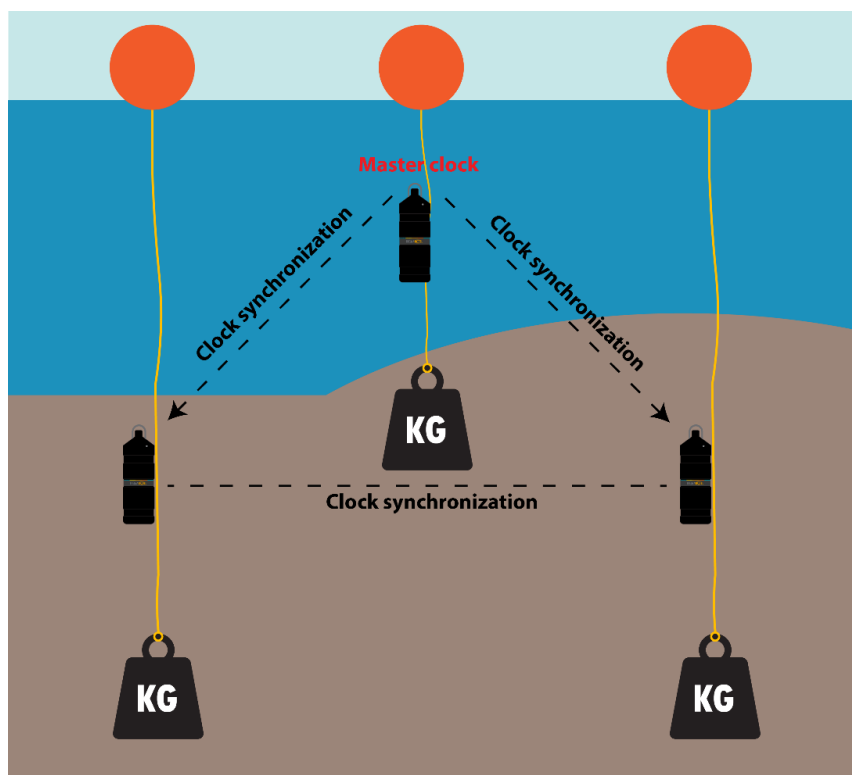

Figure 2: Visualisation of clock synchronisation between three receivers, with one receiver serving as the “master clock”
- A common clock reference is utilized across the synchronization transmitters, with one receiver serving as the master clock (see Figure 2 below).